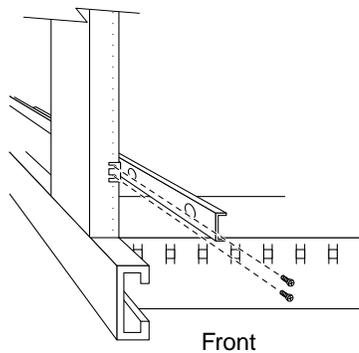

FIGURE 4-6 Securing the Front Part of the Slide Rail to the Cabinet
3. **Standing at the front of the cabinet, position the front part of the slide rail over the proper hole positions (FIGURE 4-6).**
4. **Use a Phillips screwdriver and two 10-32 screws to loosely secure the front part of the slide rail to the cabinet (FIGURE 4-6).**